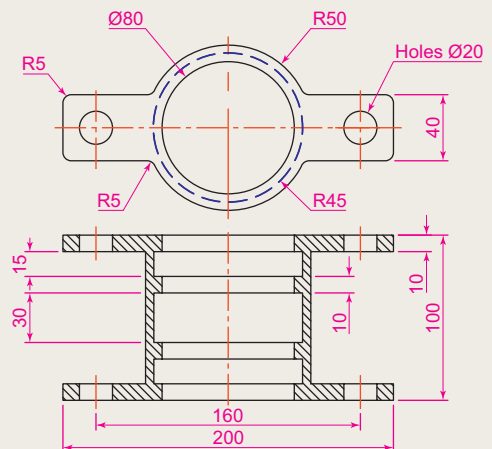

Fig. 14.44 Exercise 2
2. Construct a 3D model drawing of the separating link shown in the two-view projection (Fig. 14.44). With the **Slice** tool, slice the model into two parts and remove the